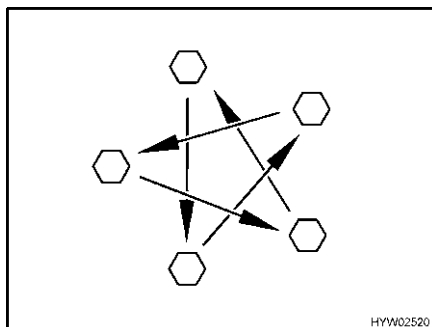

Fig. 234 Tighten the wheel nuts or wheel bolts cross-wise
- Check regularly that the wheel nuts or wheel bolts are firmly seated. Retighten the wheel nuts or wheel bolts of a changed wheel cross-wise (Fig. 234) after 50 km (30 miles). See section 13.5.2 for tightening torque.
- ▷ Tighten the wheel nuts or wheel bolts cross-wise (Fig. 234).